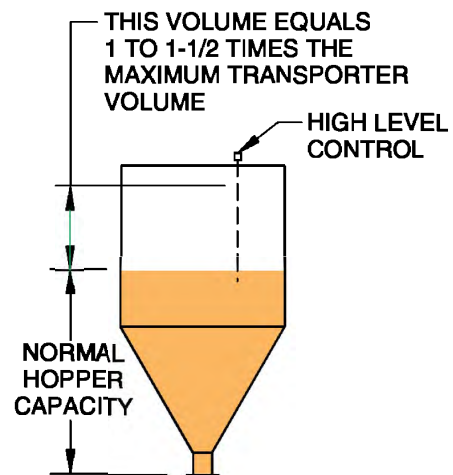

Fig. 1
1. All level controls used to indicate high level in silos, receiving bins, or hoppers (see Fig. 1) should be placed so that when actuated, there is still room for at least one full transporter batch above the highest level control actuation.